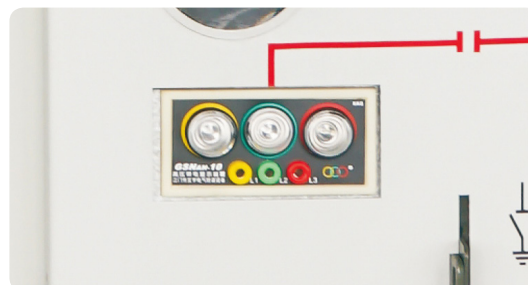

Figure 2-6 Live indicator device
- The live indicator (see Figure 2-6) is installed on each functional unit to indicate the live status of the cable.